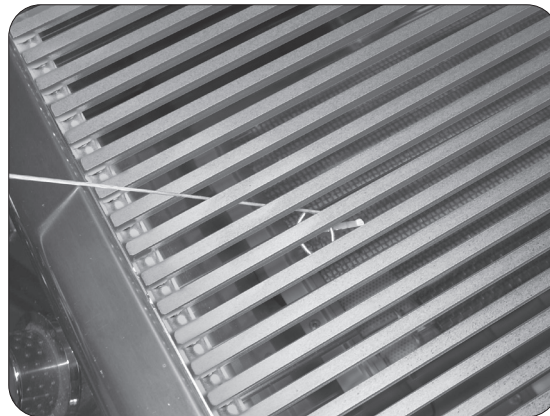

Fig. 35-2 Manual lighting
**CAUTION:** Always wait five (5) minutes for gas to clear after any unsuccessful lighting attempt.
2. Insert either a burning long-barrel butane lighter, a burning long-stem match, or a burning match held by a wire extension holder through the cooking grid opening to the top of the burner (Fig. 35-2).
4. If the burner does not light within five (5) seconds of turning the control knob, **immediately depress the knob and turn the valve to OFF**. **WAIT FIVE (5) MINUTES** before repeating steps 2 through 4 of the **MANUAL LIGHTING** instructions.